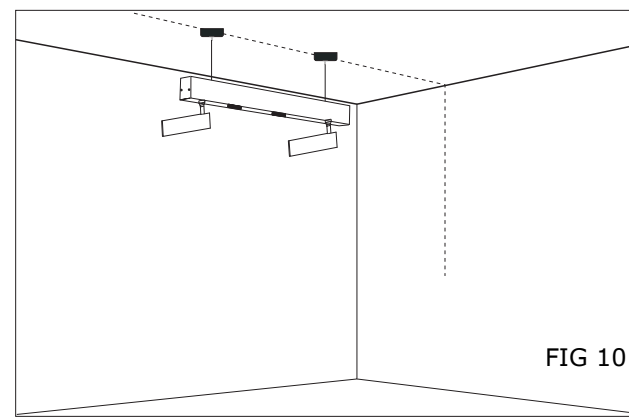

FIG 10
5. Load the magnetic track lights into the track then switch on the power to test the light (Fig 10).